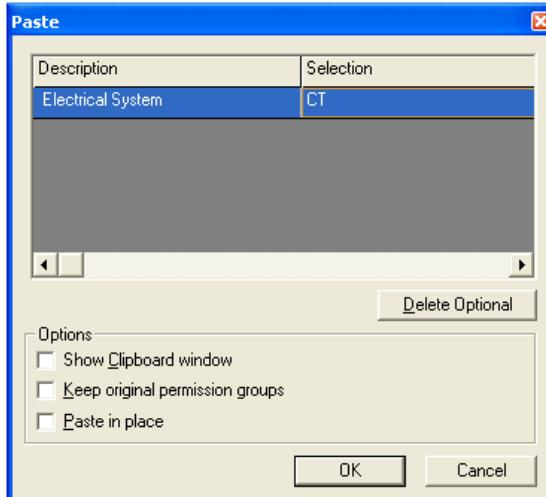

Figure 16: Paste Dialog Box
15. The **Paste** dialog box appears. Keep the default parent system for the new objects to be pasted on the model, as shown in Figure 16. Clear the **Paste in place** check box in the